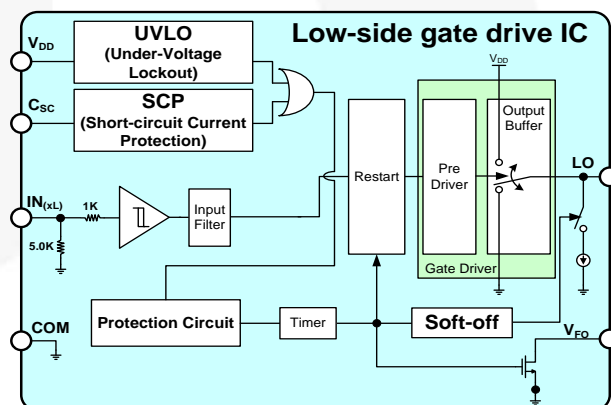
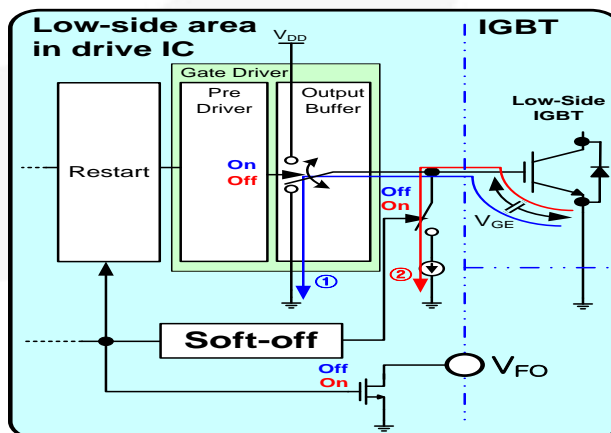

Figure 18. Internal Block Diagram of LS Gate Drive IC
Figure 19. Operating Sequence of Soft Turn off
An internal block diagram of low side and operation sequence of soft turn-off function are shown in Figure 18 and Figure 19. This function operates by two internal protection functions (UVLO and SCP). When the IGBT is turned off in normal conditions, gate drive IC turns off the IGBT immediately by turn-off gate signal ($IN_{(XL)}$) via gate driver block. Pre-driver turn-on output buffer of gate driver block, path ①. When the IGBT is turned off by a protection function, the gate driver is disabled by the protection function signal via output of protection circuit (disable output buffer, high-Z) and output of the protection circuit turn-on switch of the soft-off function. V_{GE} (IGBT gate-emitter voltage) is discharged slowly via circuit of soft-off (path ②).